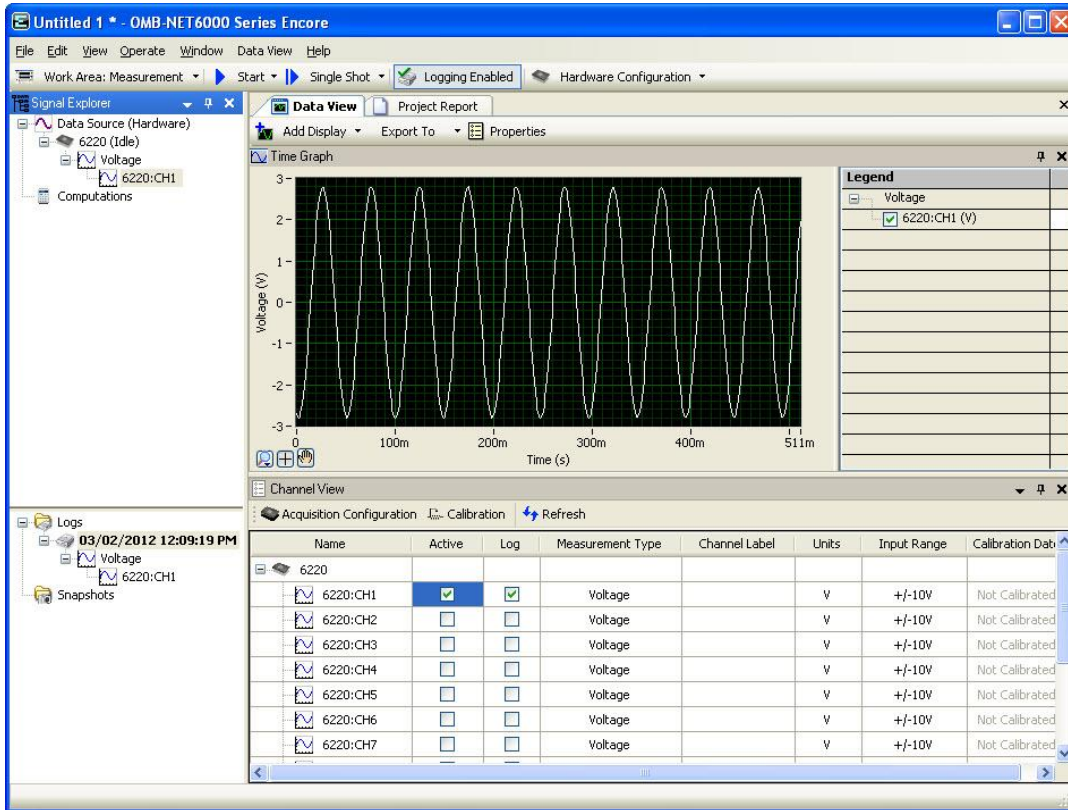

Figure 4. Acquiring and logging data
2. Click **Start**. The acquired data displays on the graph in the **Data View**, as shown in Figure 4. Note that the **Start** button changes to **Stop** when a project is running.